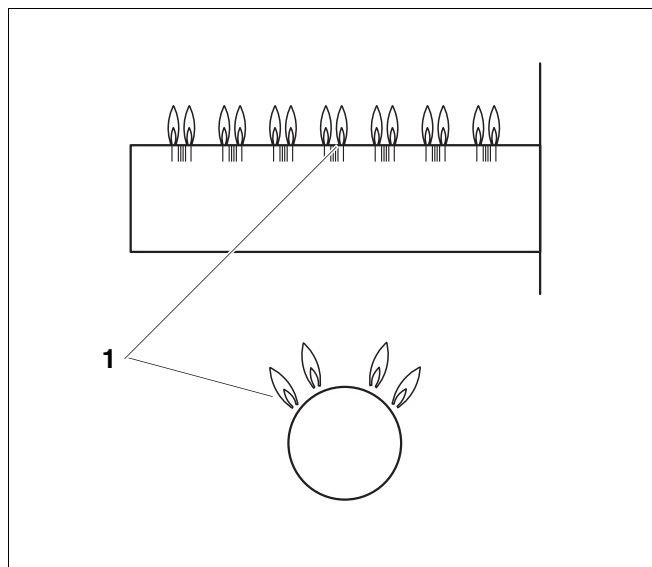

Fig. 25 Main burner
9. Test the flame rod by closing the gas shut-off. The main burner flame (→ Fig. 25) and the ignition flame are extinguished. After no more than six (6) seconds the main gas solenoid valve on the gas valve must close with an audible noise. If the gas valve does not operate correctly, turn ON/OFF knob on the gas valve clockwise to the OFF position immediately. Close the main gas shut-off and disconnect the heating system from the main power source and contact the customer service technician or the gas company.
10. After 90 seconds the igniter stops generating sparks for five (5) seconds.